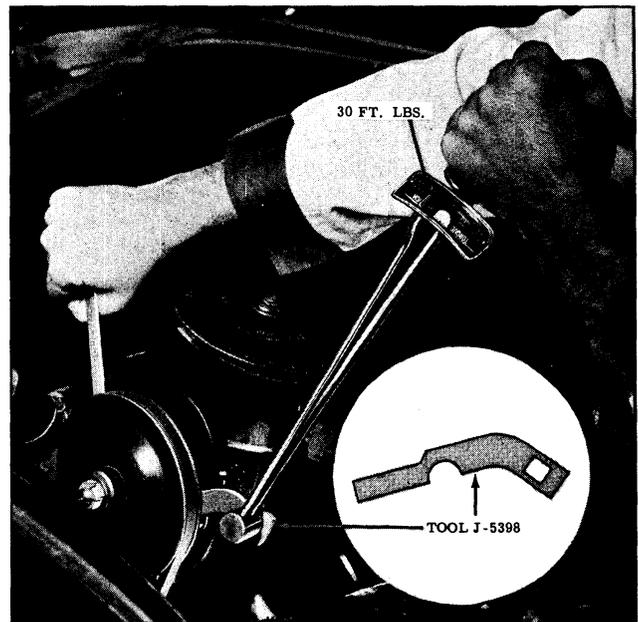

Fig. 5-71 Pump Belt Adjustment
5. Adjust pump belt by placing Tool J-5398 under pump body and over pivot cap screw. (See Fig. 5-71) With torque wrench (0 - 50 ft. lbs.), adjust belt tension to 30 ft. lbs. Tighten pump to bracket cap screws.